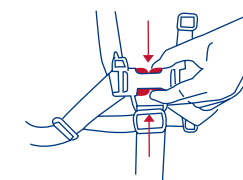

Fig. 19b
- To release, apply pressure to both sides of each male clip until the clip is released. See figure 19b. This process requires a moderate amount of effort so as to prevent an accidental release by your child.